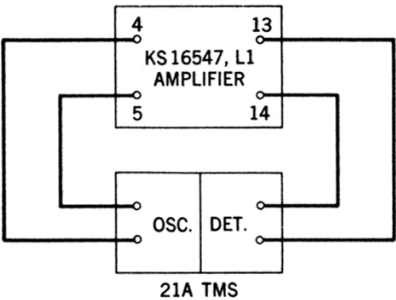

Fig. 1 – Test Setup for Gain-Frequency Test
5.01 The test setup for measuring the gain of the amplifier is shown in Fig. 1. Chart I outlines the step procedure to be followed when
3	Connect circuit as shown in Fig. 1.